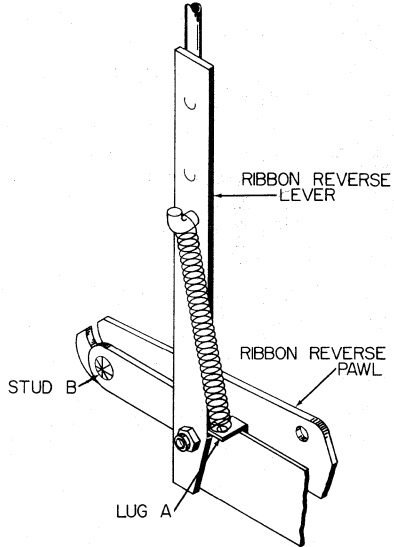

Figure 73
The tension of the reverse lever springs should be such that they retain the release levers in position over the ribbon spools but should be very light so that the reverse levers can be easily operated by the tension of the ribbon as it nears the end of the spool. The ribbon reverse levers must be free of binds and must clear the teeth of the spool so they do not restrict its rotation. Their position relative to the spool can be changed by forming the lug (A) toward the rear of the machine to move the reverse lever toward the rear of the machine (Figure 73). By operating the manual ribbon reverse lever on the ribbon reverse bar rapidly several times the ribbon reverse levers can be checked for bouncing caused by the reversing action. This is caused by the ribbon reverse pawl moving on the stud (B) as it is operated.